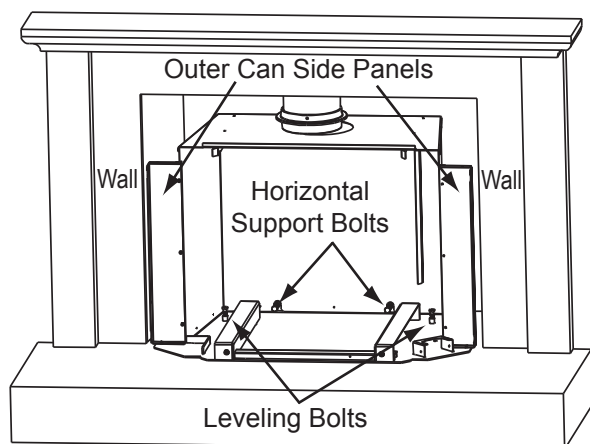

Figure 40.1
1. Align the back of surface of outer can side panels to the front wall surface for proper placement. **Figure 40.1.** Use the leveling bolts to level the outer can. **Figure 40.1.**